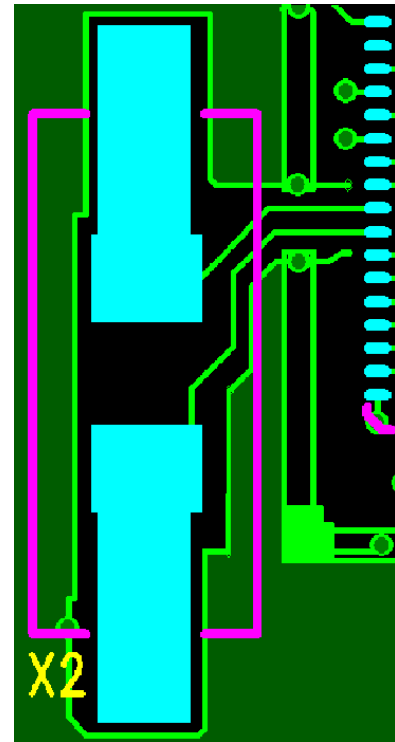

Figure 10. PCB Top Metal Layer Shielding of Crystal Signals
**OSC\_32K\_XOUT:** Output Pin for the 32kHz Oscillator. Connect to 32kHz quartz crystal. The OSC\_32K\_XOUT and OSC\_32K\_XIN traces must be well-shielded from other signals, both on the same PCB layer and lower PCB layers, as shown in Figure 10.
**OSC\_32K\_XIN:** Input for the 32kHz Oscillator. Connect to 32kHz quartz crystal. The OSC\_32K\_XOUT and OSC\_32K\_XIN traces must be well-shielded from other signals, both on the same PCB layer and lower PCB layers, as shown in Figure 10.
**OSC\_20M\_XOUT:** Output for the 20MHz Oscillator. Connect only to a supported 20MHz quartz crystal. The OSC\_20M\_XOUT and OSC\_20M\_XIN traces must be well-shielded from other signals, both on the same PCB layer and lower PCB layers, as shown in Figure 10. See the Eterna Integration Guide for supported crystals.
**OSC\_20M\_XIN:** Input for the 20MHz Oscillator. Connect only to a supported 20MHz quartz crystal. The OSC\_20M\_XOUT and OSC\_20M\_XIN traces must be well-shielded from other signals, both on the same PCB layer and lower PCB layers, as shown in Figure 10.